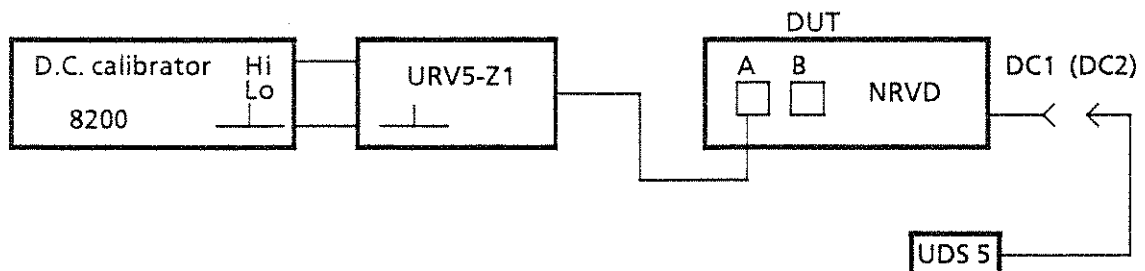

Fig. 5-3 Test setup for checking the analog outputs
- Make a test setup according to fig. 5-3: connect the D.C. Probe URV5-Z1 to channel A, the D.C. voltmeter to the output DC1.